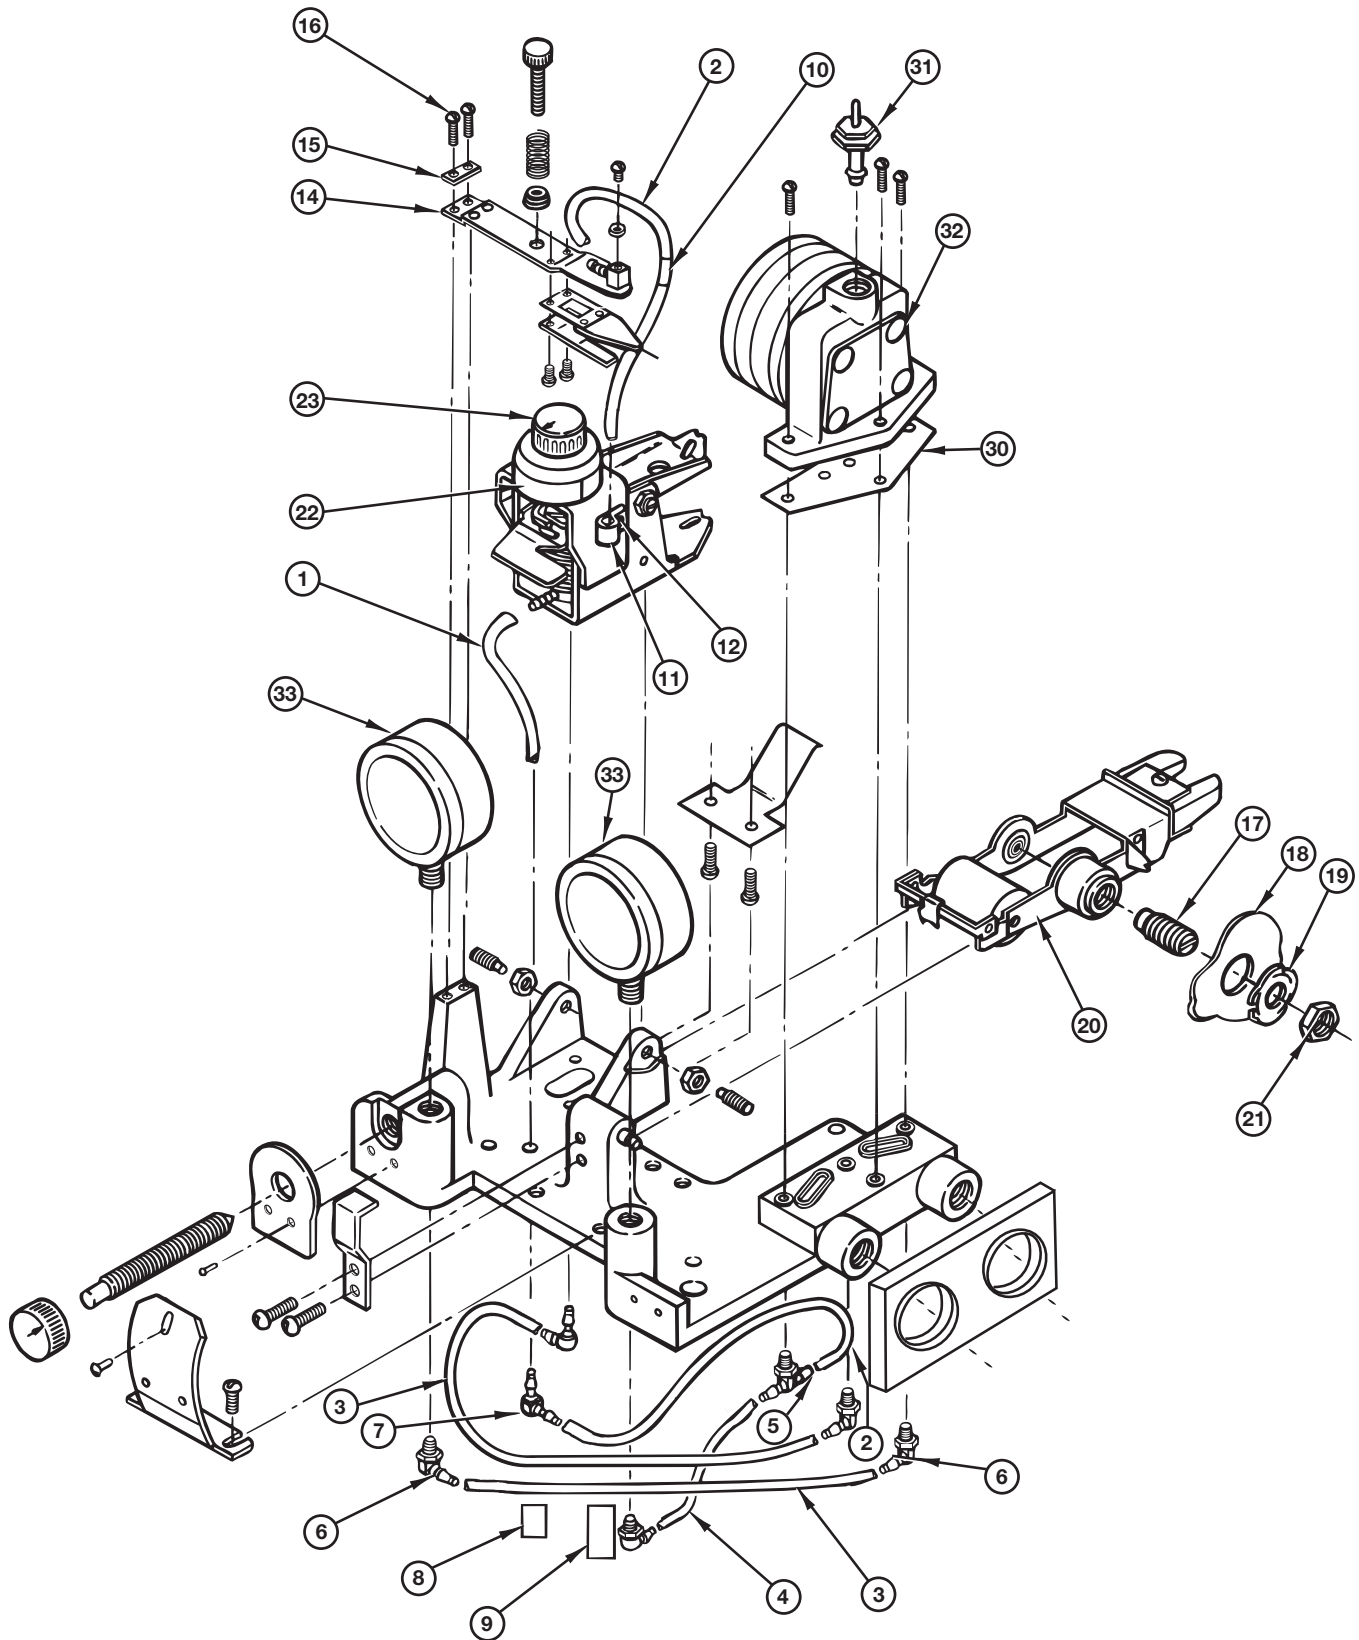

Figure 38
3.3.6.1 Controller Replacement Assemblies Parts Identification (See Figures 38 & 39)
3.3.6.2 Tubing Kit 089-8501-015 ① @ 3-15 and 6-30 psig (See Figure 38)
3.3.6.3 Nozzle Lever Kit 089-8501-002② @ 3-15 and 6-30 psig (See Figure 38)
3.3.6.4 Carriage Assembly Kit 089-8501-003 ③ @ 3-15 and 6-30 psig (See Figure 38)
3.3.6.5 Feedback Assembly Kit 089-8501-005 @ 3–15 psig and 89-8501-006 @ 6–30 psig (See Figure 38)
3.3.6.7 Additional Replacement Parts (See Figures 38 & 39)